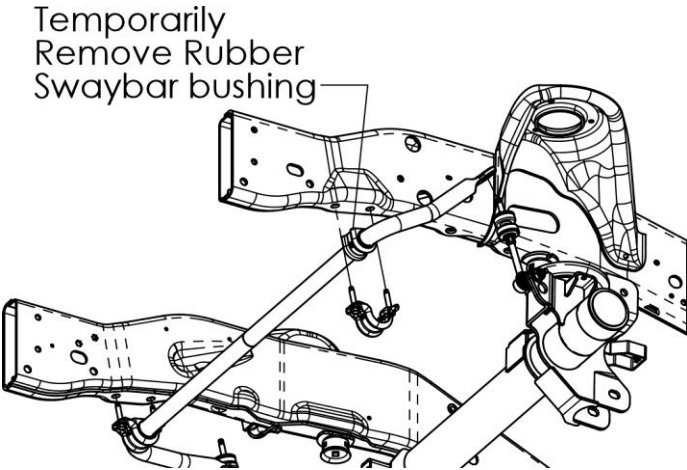

Figure 16: Temporarily remove swaybar attachment
2. Slide off the factory rubber swaybar bushing as shown in Figure 16 from one side.